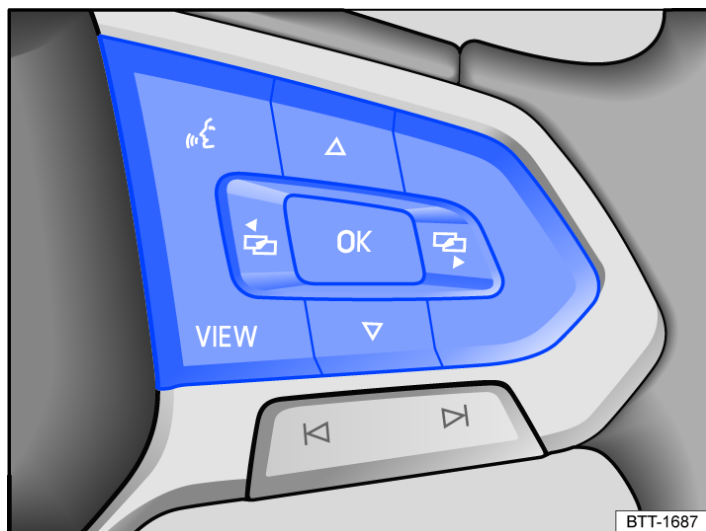

Fig. 1 Right-hand side of the multifunction steering wheel: controls for using the menus and information displays in the instrument cluster.
If any priority 1 warnings are displayed, you will be unable to open any menus (→ Warning and information messages). You can confirm and hide some warnings using the **OK** button on the multifunction steering wheel → Fig. 1.
- If a message or the vehicle pictogram is displayed, press the **OK** → Fig. 1 button, several times if required.
- Press the  or  button to display a menu or browse through a menu → Fig. 1.
- To open the menu or information display shown, press the **OK** → Fig. 1 button or wait until the menu or information display opens automatically after a few seconds.
- In the displayed menu, press the arrow keys  or  → Fig. 1 until the desired menu option is marked. A frame appears around the selected option.